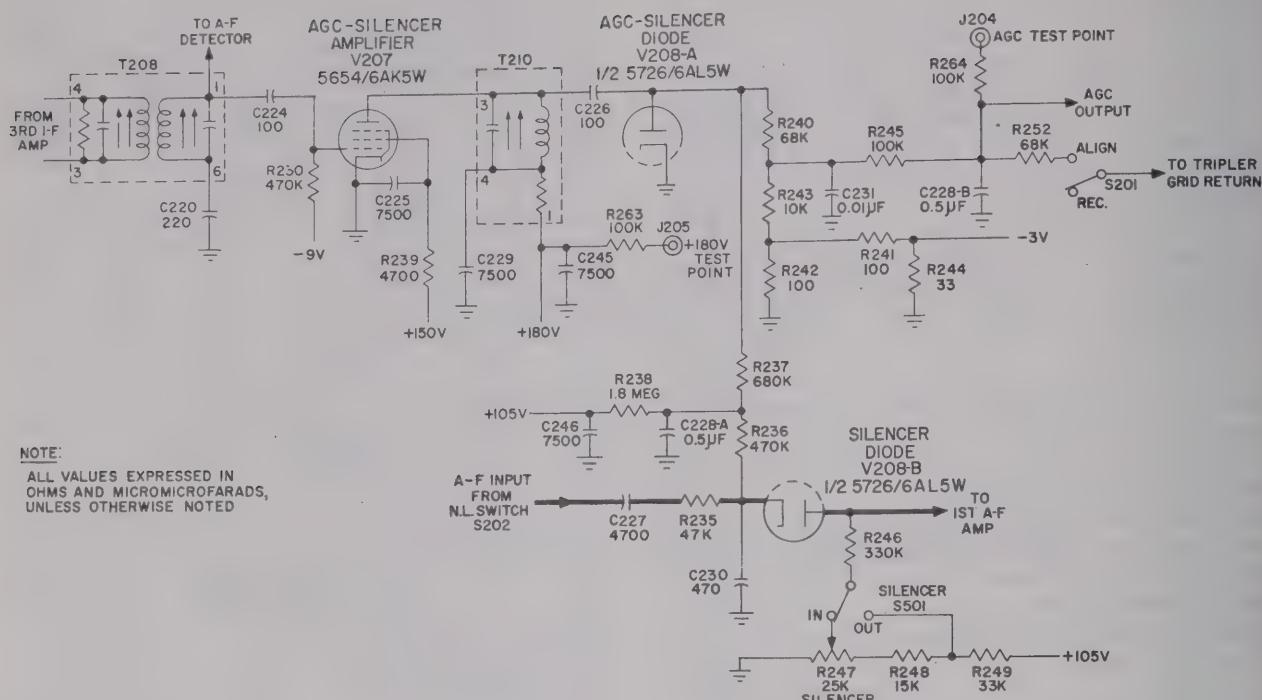

Figure 2-9. AGC and Silencer Circuits, Simplified Schematic Diagram
e. AGC-SILENCER AMPLIFIER. — The AGC-silencer amplifier, shown in figure 2-9, amplifies the output from the i-f amplifiers to a level which is suitable for use in the AGC and silencer circuits. The i-f signal from terminal 1 of transformer T208 is coupled through capacitor C224 to the control grid of V207, a 5654/6AK5W pentode amplifier. The grid is biased from the -9-volt source in the power supply, through resistor R230. The screen grid is supplied from the +150-volt source in the power supply, and is decoupled from the power supply by resistor R239 and capacitor C225. Plate voltage is supplied from the +180-volt source, through transformer T210. T210 comprises a parallel-resonant circuit at the second
f. AGC-SILENCER DIODE. — The AGC-silencer diode, V208-A, is a shunt rectifier which provides the required d-c voltages for the AGC and silencer circuits. As shown in figure 2-9, one half of a 5726/6AL5W twin diode is utilized in the circuit. When switch S201 is in the REC. position, the diode load consists of resistors R240 and R243 in series with the series-parallel network of R242, R241 and R244. The junction of resistors R241 and R244 is connected to the -3-volt bias source, so that the plate of V208-A is biased at approximately -1.8 volts. When the peak value of the 1.775-mc signal, coupled to the diode plate from V207, exceeds this delay bias, the diode conducts and a negative rectified voltage is developed across the load resistors. The voltage which is obtained at the junction of R240 and R243 is the AGC voltage; this voltage is bypassed for radio frequencies by C231 and is fed to the AGC line through a low-pass filter, R245 and C228-B, which removes the audio-frequency components from the voltage. AGC voltage is applied to the first and second r-f amplifiers, first and second
g. SILENCER.—The noise silencer (squelch) circuit is used to prevent noise from reaching the audio section of the receiver in the absence of an incoming signal of some predetermined minimum level. Silencer diode V208-B, connected between N.L. switch S202 and first a-f amplifier V209-A, permits the audio signal to pass during conduction and cuts off the audio signal when it is not conducting. V208-B is one half of a type 5726/6AL5W dual diode; see figure 2-9. The silencer may be cut in or out of the receiver circuit by means of SILENCER switch S501. SILENCER potentiometer R247 is used to adjust the silencing threshold.